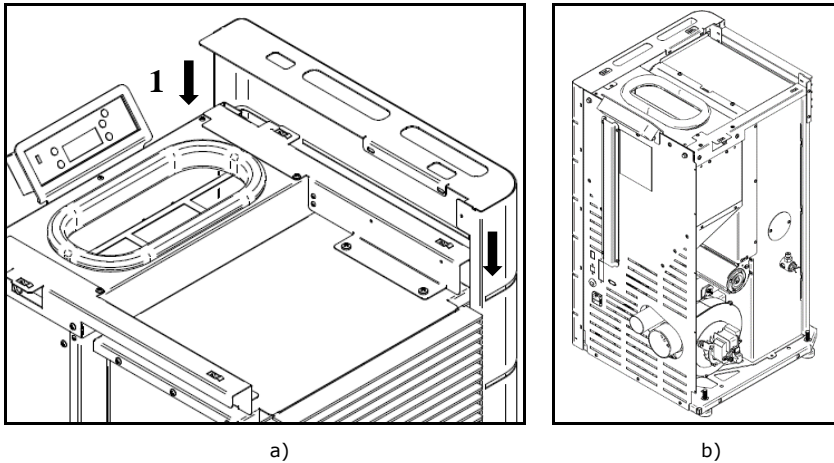

Figure 23 - Attaching the side casings
c) Next, attach the side casing by sliding it downwards. During the assembly of the casing, make sure the flap on the top side (1) is placed overlapping the structure and, simultaneously, covering the rear side of the unit on the outside, as shown in Figure 23-b.